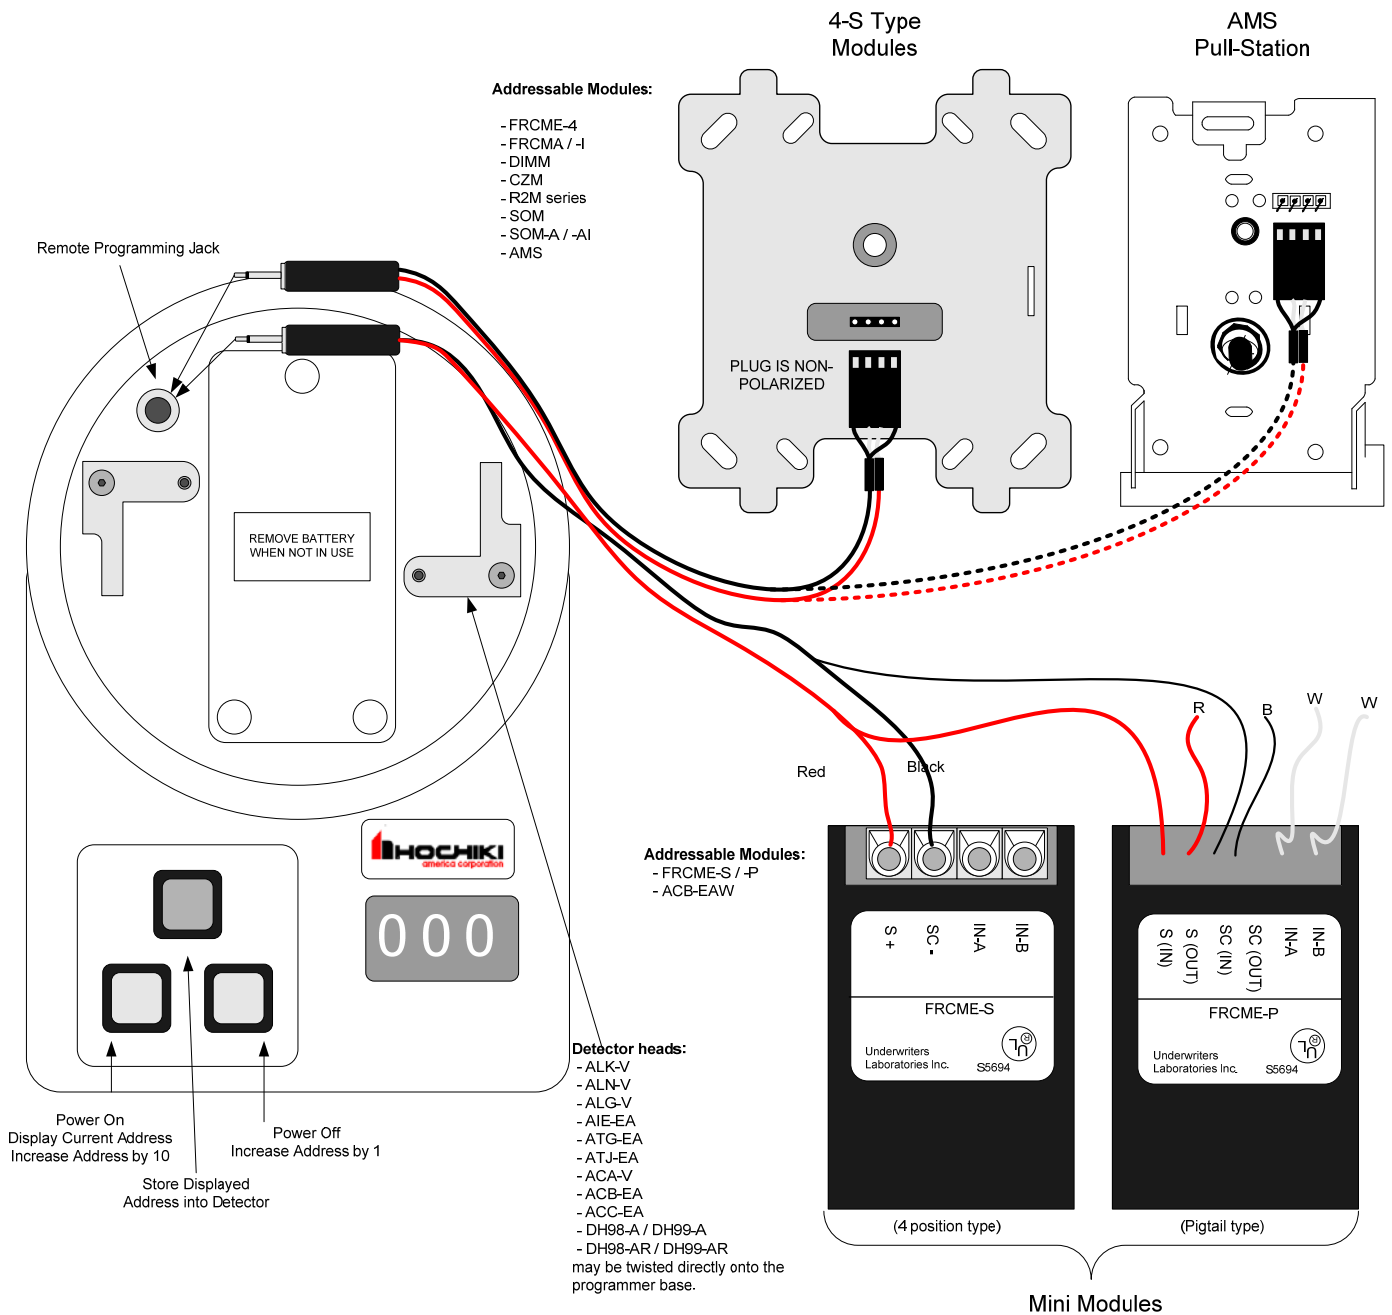

Figure 5.4 Hochiki TCH-B100-NS Programmer Connections
2. Using the Hochiki TCH-B100-NS programmer as shown in Figure 5.4, program the appropriate address into each analog addressable device.
This section applies to the following Hochiki analog detectors – ALK-V, ALK-V2, ALG-V, ALN-V, AIE-EA, DH-98-A(R), DH-99-A(R), ATG-EA, ATJ-EA, ACA-V, ACB-EA and ACC-V. Follow these steps to program a new address into any one of these analog detectors. (Refer to Figure 5-4)
This section applies to the following Hochiki addressable modules - FRCME-4, R2M series, DIMM, CZM, SOM series, and AMS. Follow these steps to program a new address into any of these addressable modules. (Refer to Figure 5-4)
This section applies to the Hochiki FRCME-S and FRCME-P addressable mini-module. Follow these steps to program a new address into any of these addressable modules. (Refer to Figure 5-4)